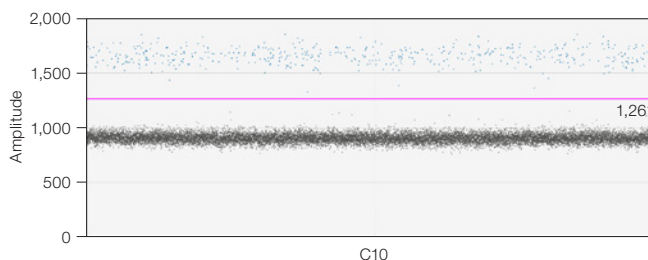

Fig. 1. 1D plot of a sample thresholded for the PMMoV template.
3. Based on user preference, select one of the threshold cluster modes (**Threshold Multiple Wells** or **Threshold Single Wells**). Thresholded samples are shown in Figure 1, where blue indicates positive droplets for the PMMoV template, and gray indicates negative droplets.